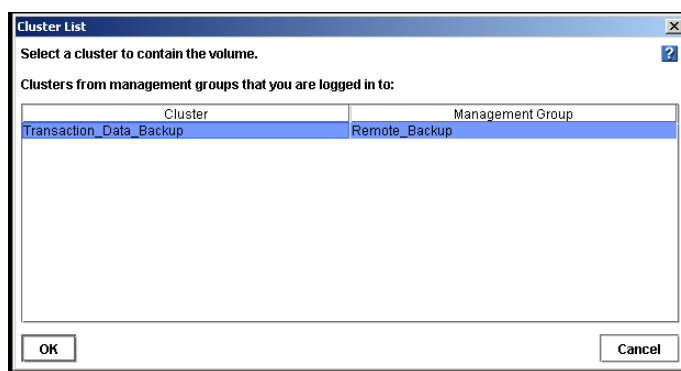

Figure 238. Selecting a Cluster for the Remote Volume
2. To create a new remote volume, click New Volume. The Cluster List window opens, shown in Figure 238.